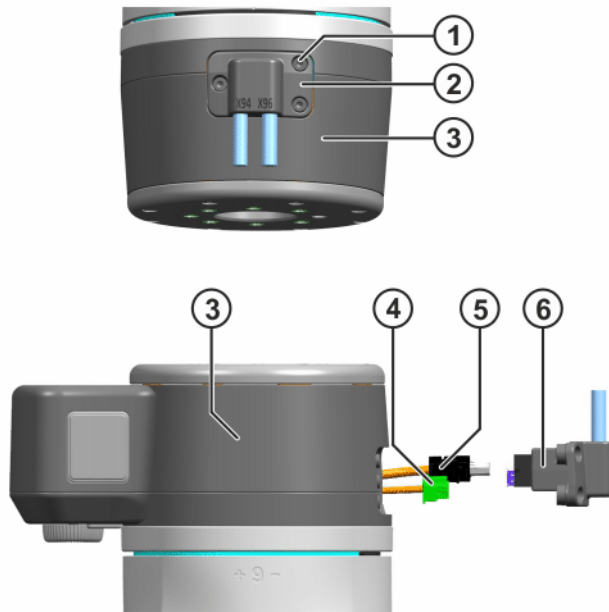

Fig. 11-17: Fastening the connector bypack
1. Unscrew 3 M3x8-8.8-A2K Allen screws from the cover of A6 and remove the cover (>>> Fig. 11-17).